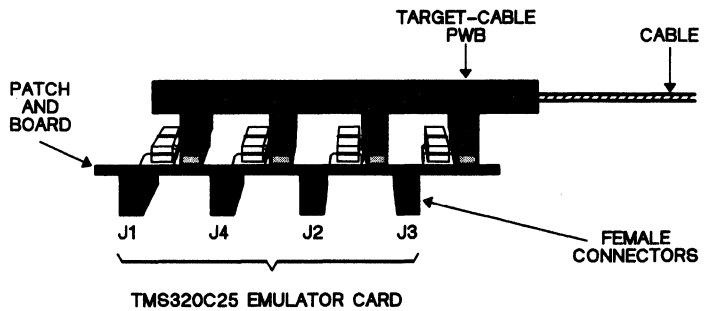

Figure 9-21. XDS/22 Target-System Cable - Emulator Card Connection
The female connectors on the patch board plug into male headers J1 - J4 on the Emulator card (Figure 9-21)
- 4) Install patch board on target-cable PWB (Figure 9-21).